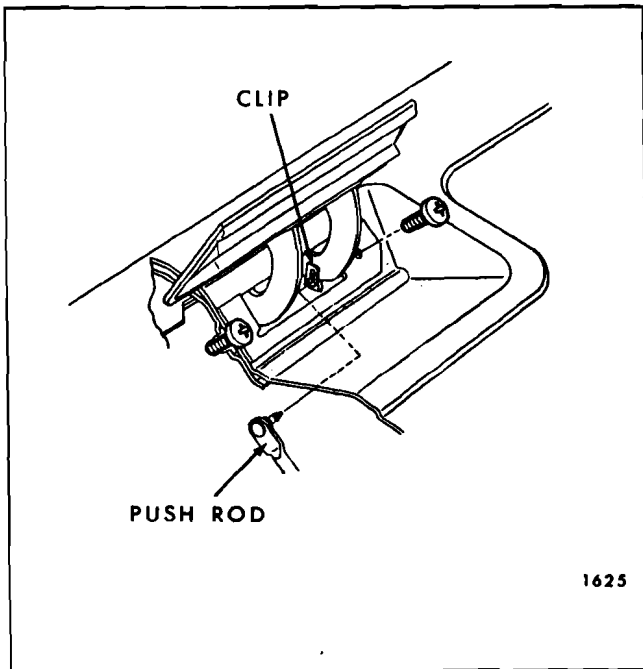

Fig. 9-20—Tail Gate Inside Handle Attachment
1. Raise inside handle and disengage remote push rod from spring clip (See Fig. 9-20).